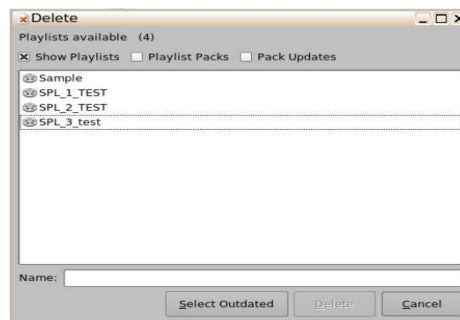

Figure 67: Delete SPL Window
- The following window will appear allowing the user to select which Show Playlist(s) to delete (Figure 67).
When the check-box next to these selections has been marked, the content will be filtered according to what has been selected (Figure 67).